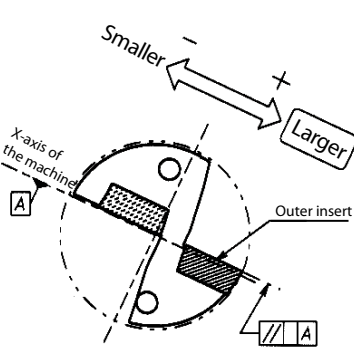
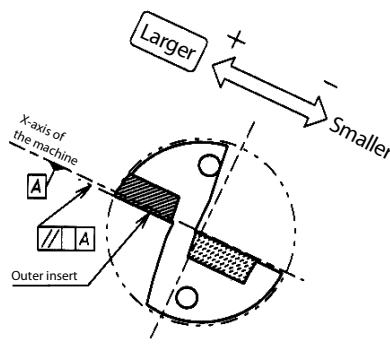
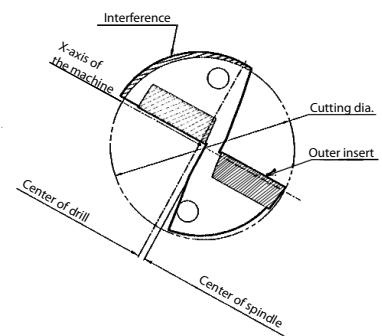

Fig. 2 Outer insert facing up
Fig. 3 Outer insert facing down
Fig. 4 Excessive offset (for smaller hole diameter)
5. The upper screw should be tightened slightly so that the sleeve will not be damaged. (Fig. 2)
1. Most lathe problems occur with center height deviation. The center height is appropriate if a core approximately 0.5 mm diameter remains at the center of the end face. (Fig. 3)
2. Align the drill with the outer insert face parallel to the X-axis of the tool turret. (Fig. 4)
2. In case of making the hole diameter larger, slide the tool along the X-axis toward the outer insert side. (Fig. 2, Fig. 3) For making the hole diameter smaller, slide the tool along the X-axis in the opposite direction. (This movement of the axis is called "Offset"). However, be sure not to make the hole diameter smaller than the drill diameter by 0.2 mm or more. Otherwise, the toolholder will interfere with the drilled hole. (Fig. 4) e.g.) in case of using $\varnothing 20$ drill, the hole diameter must not be smaller than 19.8 mm.